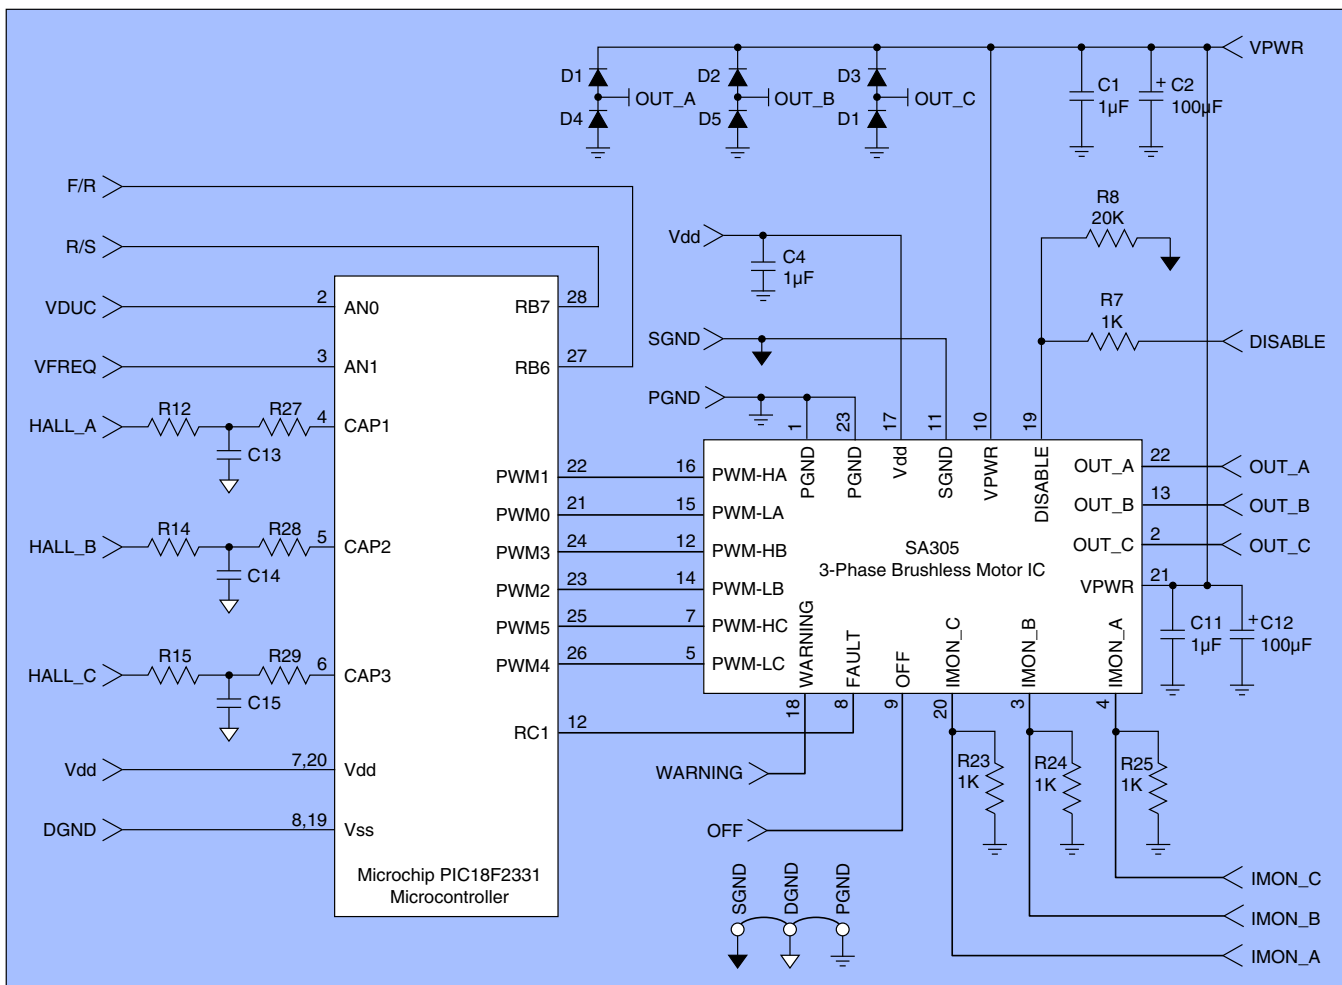

Figure 9. A specific example – Combining the SA305 brushless motor IC with a Microchip PIC18F2331 microcontroller
By utilizing the on-board Microchip PIC18F2331 microcontroller with the SA305, PWM input control is achieved. The resulting circuit of the DB62 can be easily converted into the circuit shown in Figure 9 and serve as the base circuit for a production version. The sequence table for commutation (obtained from the motor data sheet) is entered in the program memory of the
**Three Separate Ground Planes** – As discussed in detail in the DB62 document, noise immunity can be enhanced by three separate ground planes tooled in a multilayer board: DGND (microcontroller ground), SGND and PGND. The DGND ground is the most sensitive. The ground planes should be inter-connected by jumpers as depicted in Figure 9, so that no current flows between the three independent grounds. These jumpers are located in the center of the evaluation board at the right of the SA305.
**External Flyback Diodes** – In high current applications it is recommended that external flyback diodes be connected as shown in Figure 9. This is because the internal body diodes cannot sustain high currents for long periods of time. Low voltage drop, high current Schottky diodes, such as International Rectifier's part number 50SQ100, are recommended.